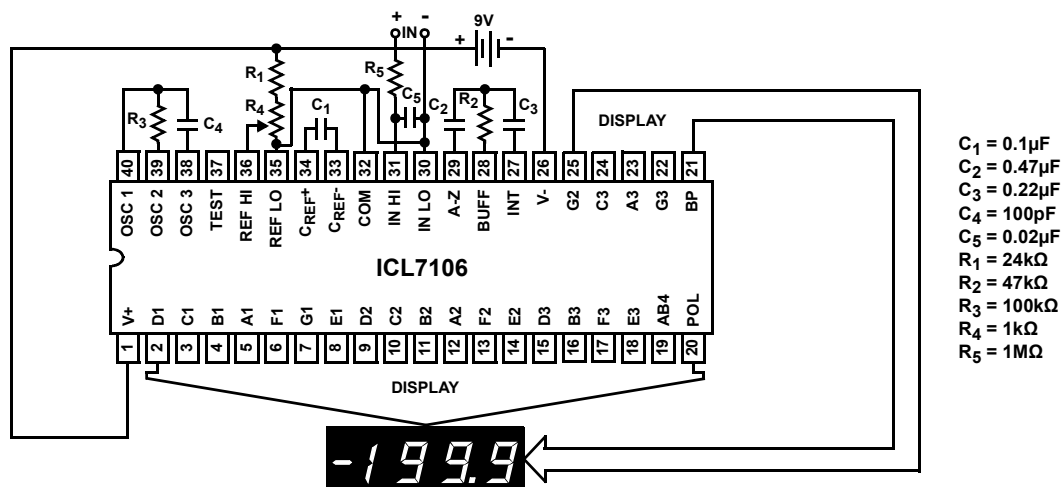
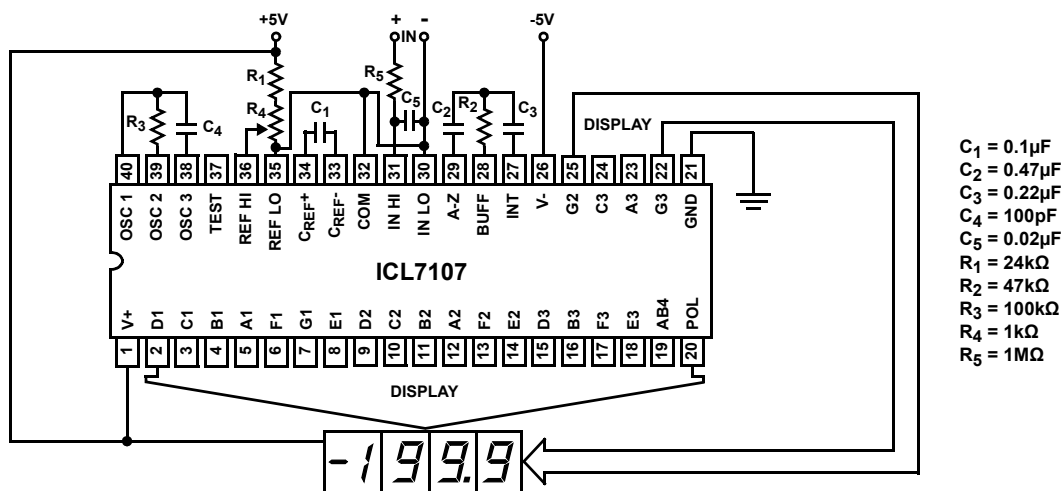

FIGURE 1. ICL7106 TEST CIRCUIT AND TYPICAL APPLICATION WITH LCD DISPLAY COMPONENTS SELECTED FOR 200mV FULL SCALE
FIGURE 2. ICL7107 TEST CIRCUIT AND TYPICAL APPLICATION WITH LED DISPLAY COMPONENTS SELECTED FOR 200mV FULL SCALE
- Unless otherwise noted, specifications apply to both the ICL7106 and ICL7107 at $T_A = +25^\circ\text{C}$, $f_{\text{CLOCK}} = 48\text{kHz}$. ICL7106 is tested in the circuit of Figure 1. ICL7107 is tested in the circuit of Figure 2.